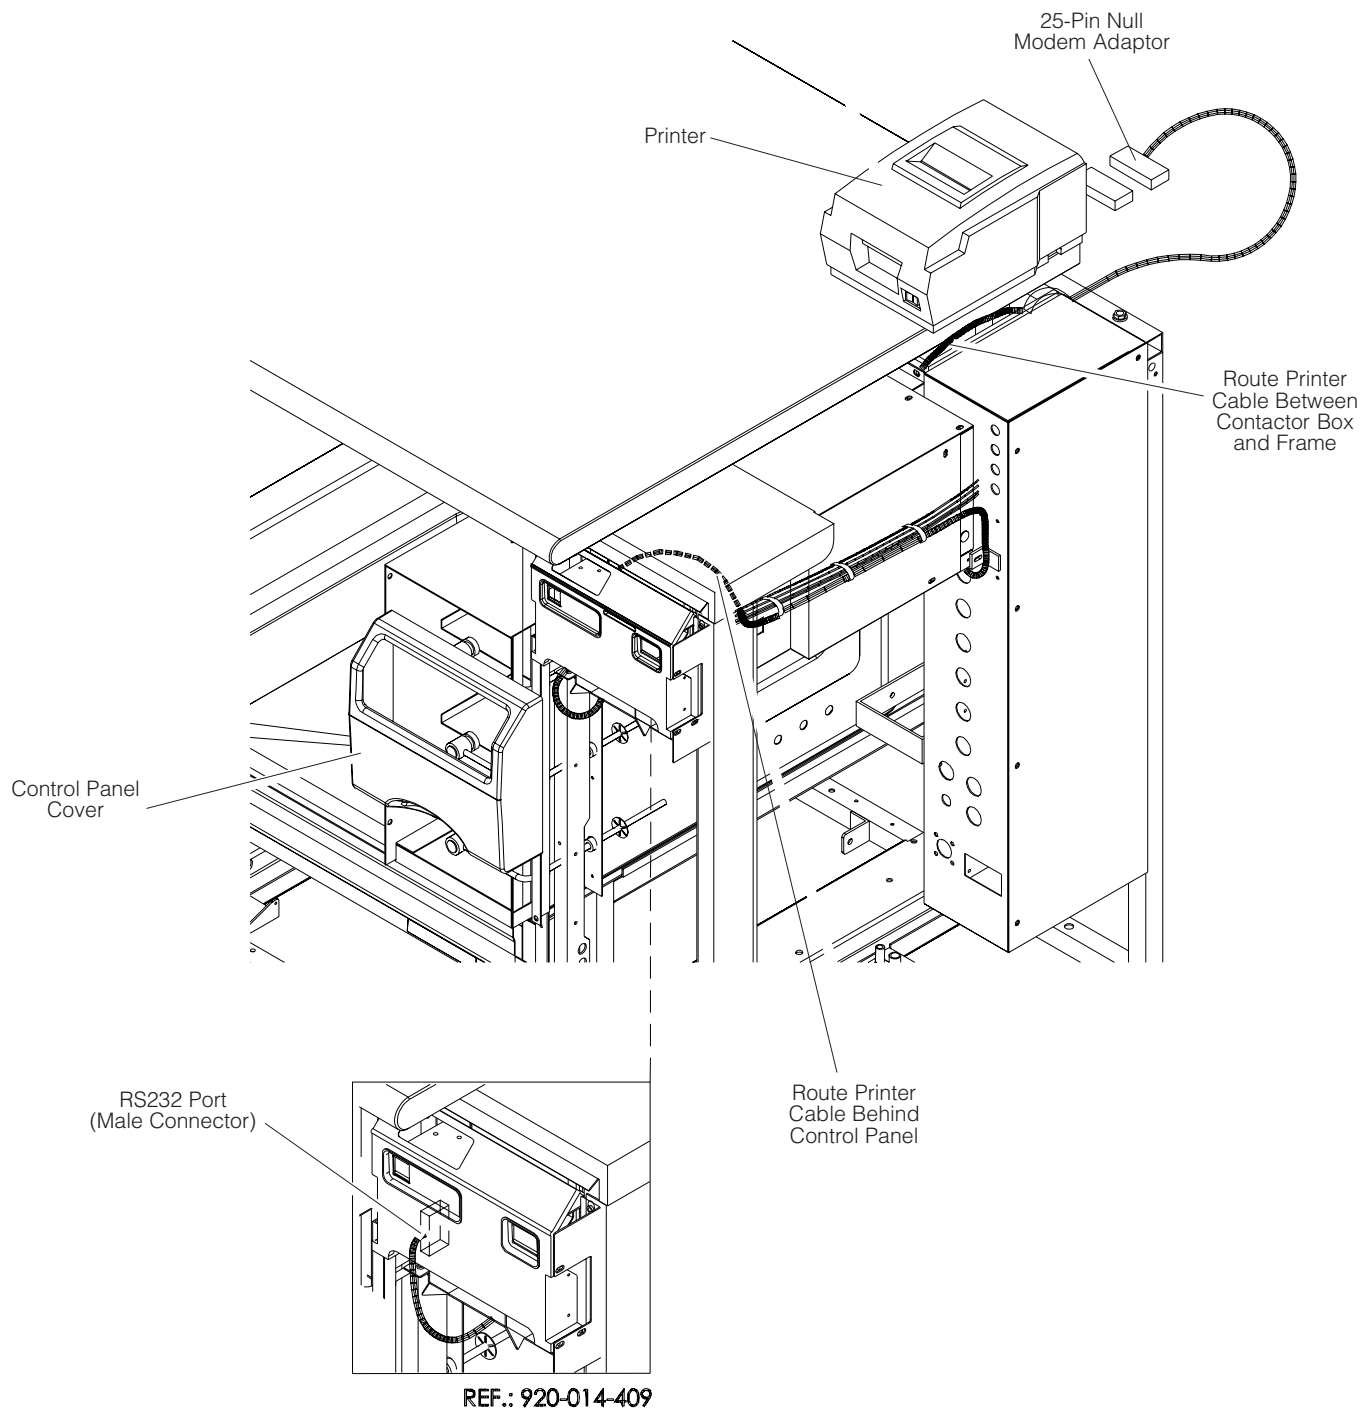

Figure 3-4. Optional Printer
5. From side of unit, run printer cable male connection end between top cabinet panel and contactor box (see Figure 3-4).